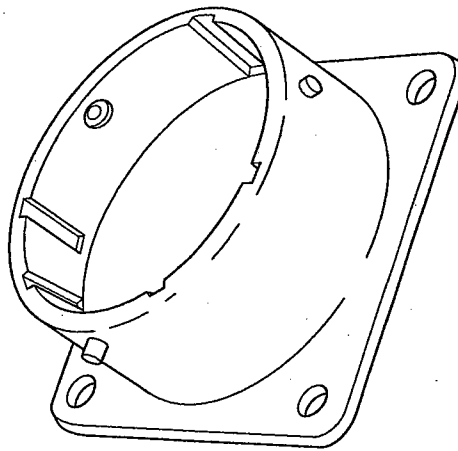

Fig 27. Dummy storage receptacle, general view
18.1 Dummy receptacles (Fig 27) are used as a stowage for 466 straight plugs when they are temporarily disconnected from receptacles. They are available in normal and keyway oriented configurations.